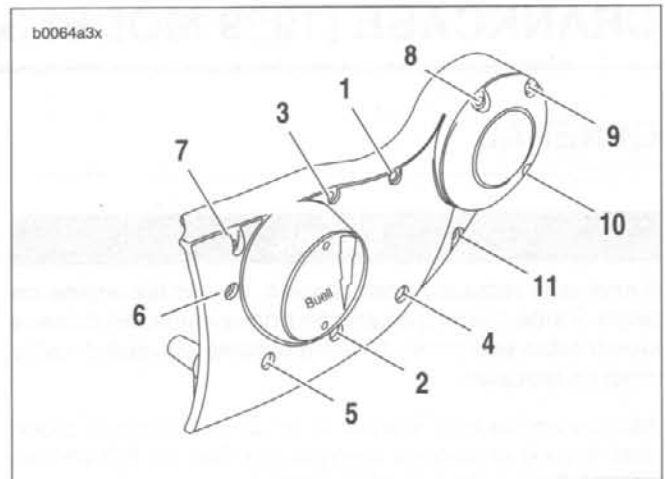

Figure 3-91. Gearcase Cover Mounting Screw Torque Sequence
5. Install gearcase cover over all gears and onto right crankcase half (10). Secure cover to crankcase half with 11 socket head screws. Tighten screws evenly to 80-110 **in-lbs** (9.0-12.4 Nm). Use torque sequence shown in Figure 3-91.